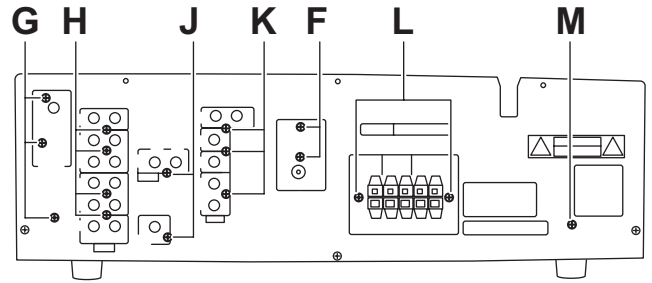

Fig.6
3.1.3 Removing the rear panel and each I/O boards (See Fig. 6 to 8)